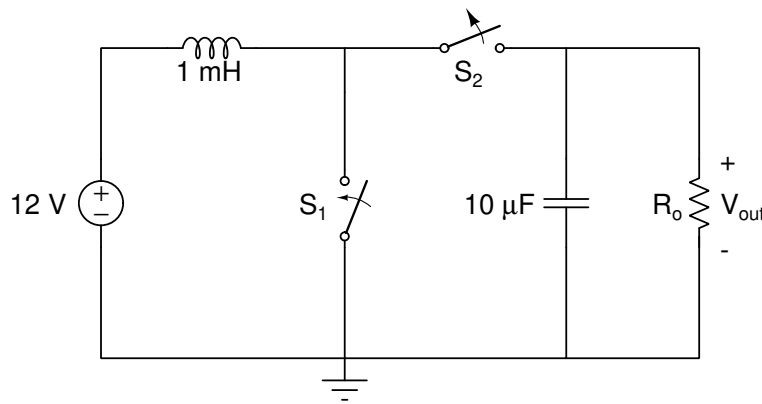

Figure 1: A boost converter circuit containing two synchronized switches.
**Introduction:** In this lab, you will design, simulate, build, and test a boost converter based on the switched capacitor circuit shown in **Figure 1**. You will analyze how the output voltage changes over the temperature range between  $-40^{\circ}$  and  $+60^{\circ}$  C.
Figure 2: Boost converter circuit implemented with an NMOS transistor driven with a function generator (FG) to represent the switch  $S_1$  and a junction diode to represent the switch  $S_2$  in Figure 1.